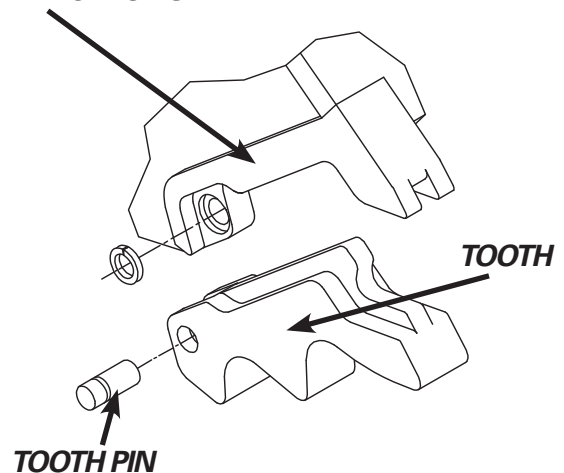

FIGURE 7-5
5. Insert the new tooth by sliding it into the slot in the receptacle. Make sure the retainer ring is located in its seat in the receptacle before installing the tooth (Figure 7-5).